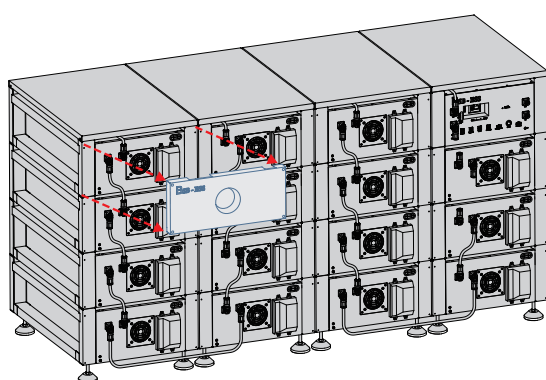
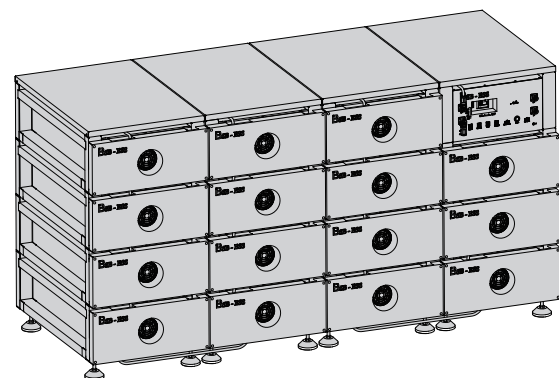

Figure 15
Figure 16
Step 6: As shown in the figure 15 & figure 16, assembling the decorative cover in front of the battery pack, fixing it with 4*M4 screws, and completing the assembly in sequence.